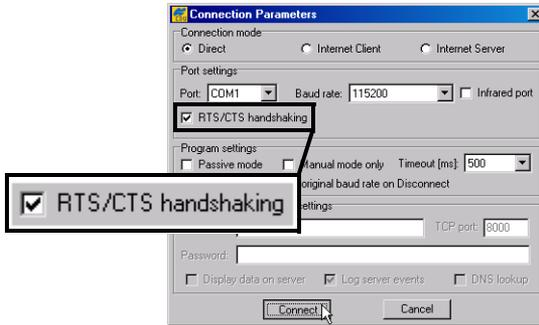

Figure 4-10. Connection Parameters – RTS/CTS Handshaking
2. On the **Connection Parameters** dialog box, enable **RTS/CTS handshaking** (Figure 4-10).